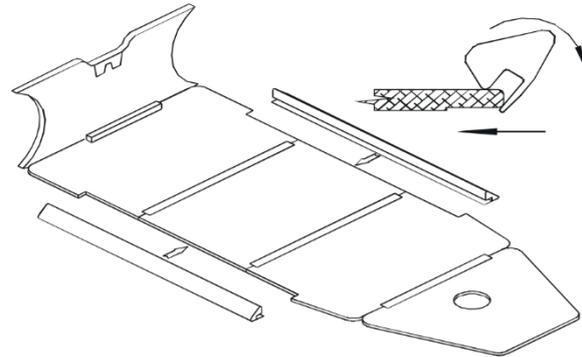

**Fig. 6. How to assemble a floor. Step 2.**
- To flattening floor apply the force to the sections connecting zone apex as show on fig. 6.